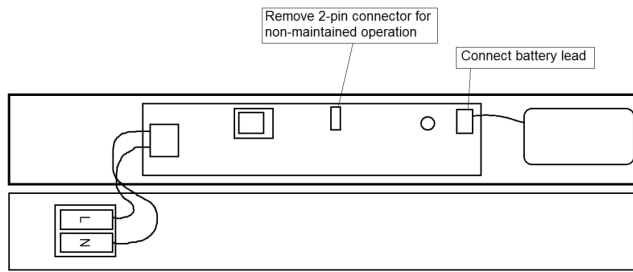

Fig. 2
- For non-maintained operation, remove the 2-pin connector from the circuit board (see Fig. 2). For maintained operation, leave it in place. This fitting cannot be connected for switched maintained operation
- Connect the battery lead to the battery connector on the PCB (see Fig. 2)